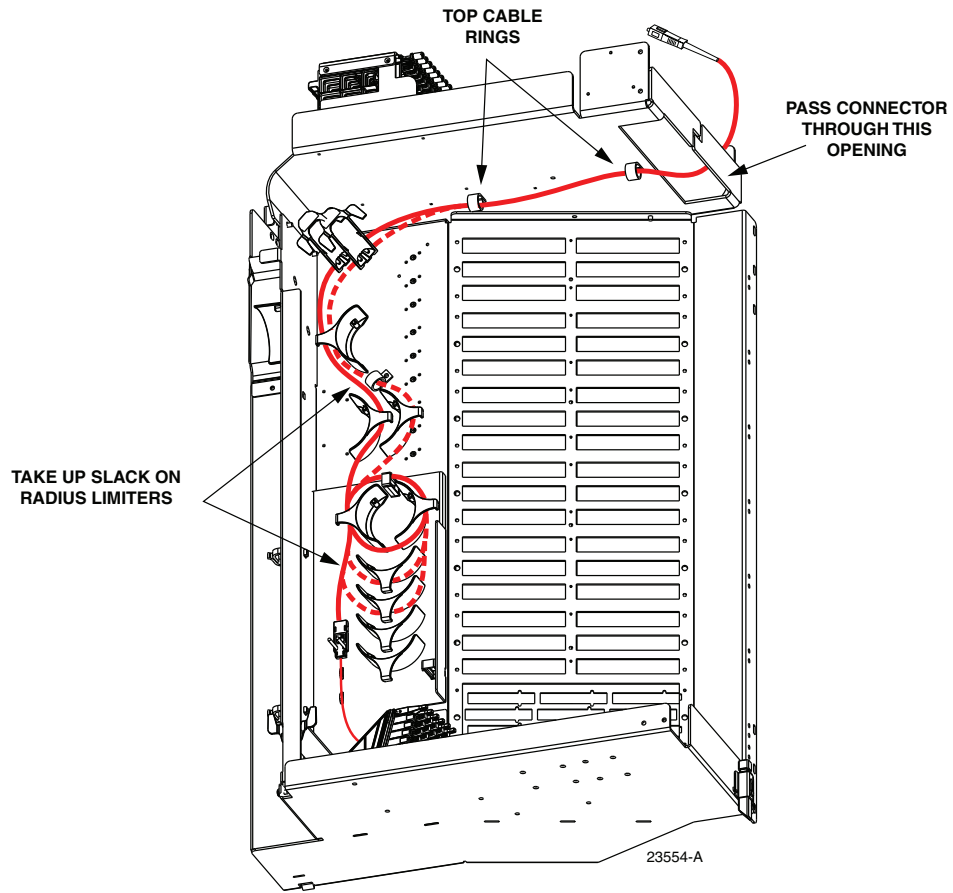

Figure 19. Re-Routing the Feeder Cable Fiber
7. When the feeder cable connector and fiber are free, pass the connector through the opening located behind the splitter compartment as shown in Figure 19.